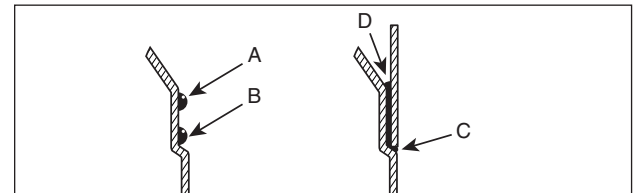

FIGURE 16-6
16.3.2.2. The first application of the sealant is to place a row of 1/4-inch-diameter beads around the top of the collar radius, where the incline section meets the vertical edge. (See FIGURE 16-6, A.)
16.3.2.3. The second application of the sealant is to place a row of 1/4-inch-diameter beads around the bottom surface of the vertical edge of the collar. (See FIGURE 16-6, B.)
16.3.2.4. Now, set the containment sump section on the collar and seat it firmly in place. (See FIGURE 16-6.)
16.3.2.5. If the sealant did not flow out at the containment sump joint, apply extra sealant and smooth it out all the way around the joint to ensure sufficient and even coverage. (See FIGURE 16-6, C.)
16.3.2.6. For the next application of sealant, apply 1/4-inch-diameter beads around the inside groove of the containment sump body. (See FIGURE 16-6, D.)